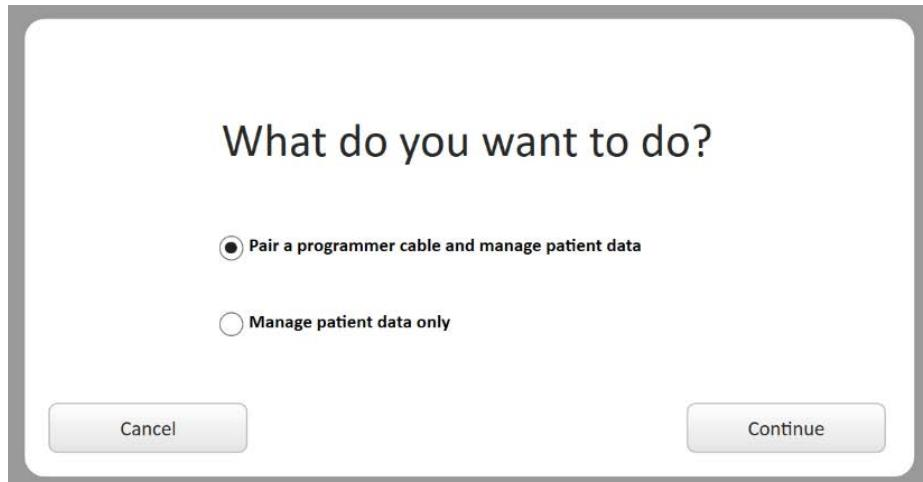

Figure 3-2. Program Patients and Use Inspire SleepSync Option
- d. On the next screen (Figure 3-2), select the **Pair a programmer cable and manage patient data** option, and then select **Continue**.